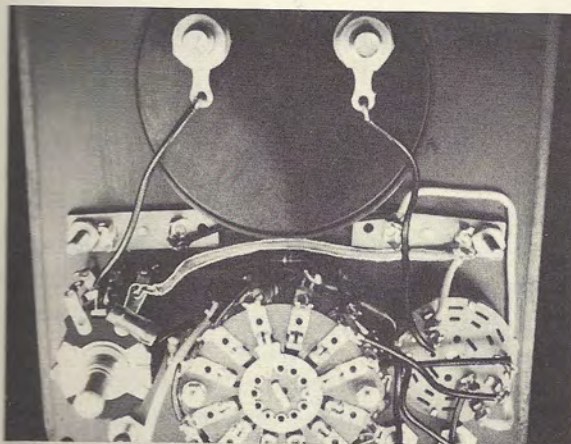

Fig. 12-7
Step 4. Run the wire as shown in Fig. 12-7, and solder one end to terminal 1 of potentiometer P_2 .